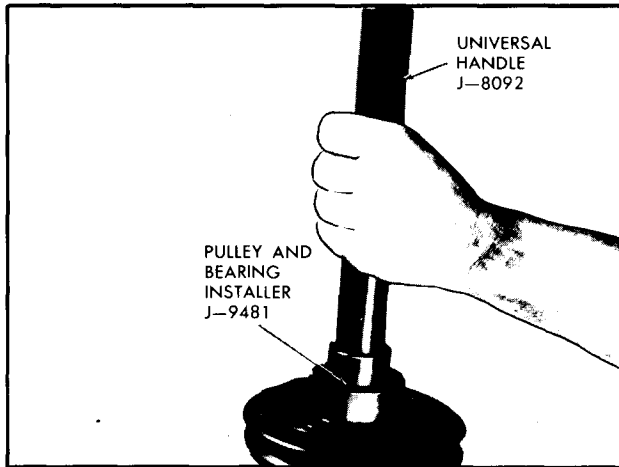

Figure 51—Installing Pulley and Bearing Assembly
3. Press or tap pulley and bearing assembly on neck of compressor until it seats, using Pulley and Bearing Installer J-9481 with Universal Handle J-8092 (figure 51). The Installer will apply force to inner race of bearing and prevent damage to bearing.